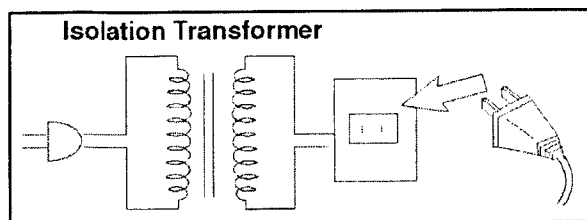

Fig. 1
1. It is advisable to insert an isolation transformer in the AC supply before servicing a hot chassis. Fig. 1.
1.3. Leakage Current Hot Check (See Fig. 1)